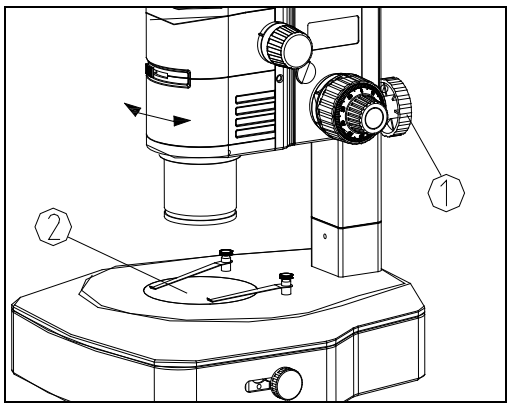

Fig.11
3. Loosen the lock knob (1), and rotate the microscope body and the focusing bracket left or right.
4. Align the center of zoom body with the center of stage plate, then tighten the lock knob (1). (See Fig. 11)